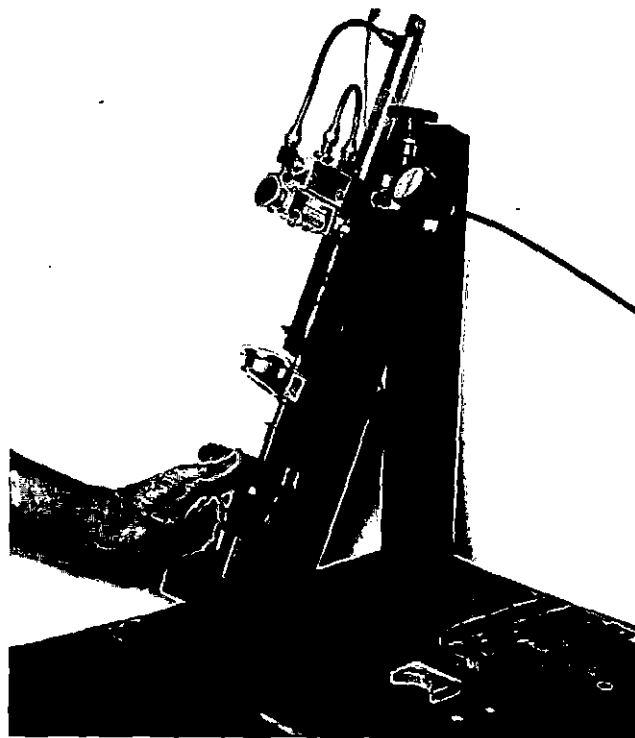

Fig. 3-20, (F60315). Injector in the plunger sticking tool
15. To check the injector plunger sticking in the PT (type D) and flanged injectors, use 3375209 Injector Plunger Sticking Checking Tool, Fig. 3-20. See section four for the operating instructions.